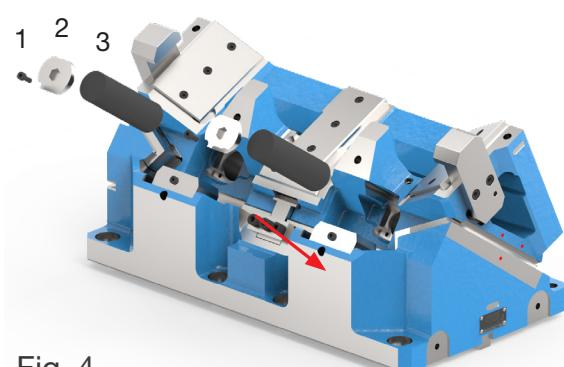

Fig. 4
Insert the gas spring (3) in the hole provided (fig. 4). Insert the bayonet lock (2) in the provided hole and turn it by 90°. Then screw in the locking screw (1) and tighten it with 33 Nm.